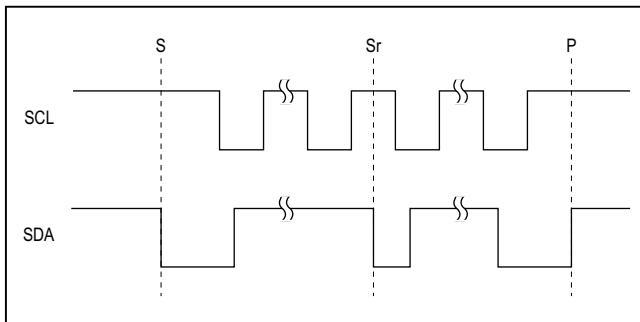

Figure 6. I2C START, STOP and REPEATED START Conditions
When writing to the MAX14690\_ using I2C, the master sends a START condition (S) followed by the MAX14690\_ I2C address. After the address, the master sends the register address of the register that is to be programmed. The master then ends communication by issuing a STOP condition (P) to relinquish control of the bus, or a REPEATED START condition (Sr) to communicate to another I2C slave. See Figure 6.